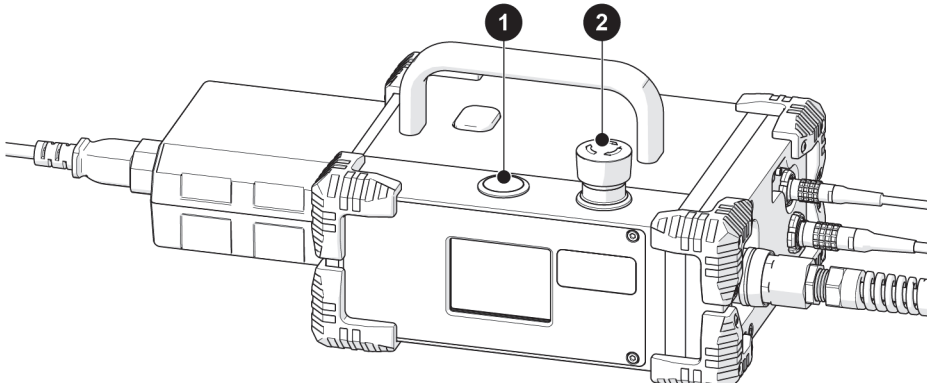

Figure 4-2 Power controller
3. Locate the red emergency off push-button on the power controller. Rotate this button clockwise to unlatch item #1 (see Figure 4-2 on page 140).
The green push-button on the power controller activates the system (see item #2, Figure 4-2 on page 140).